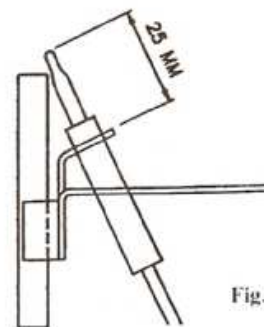

Fig. 2
- e) When refitting the thermocouple note the dimension given in FIG.2.
- e) Replace the new thermocouple - do not overtighten the connection to the tap. Ensure the thermocouple is correctly positioned - SEE FIG. 2.